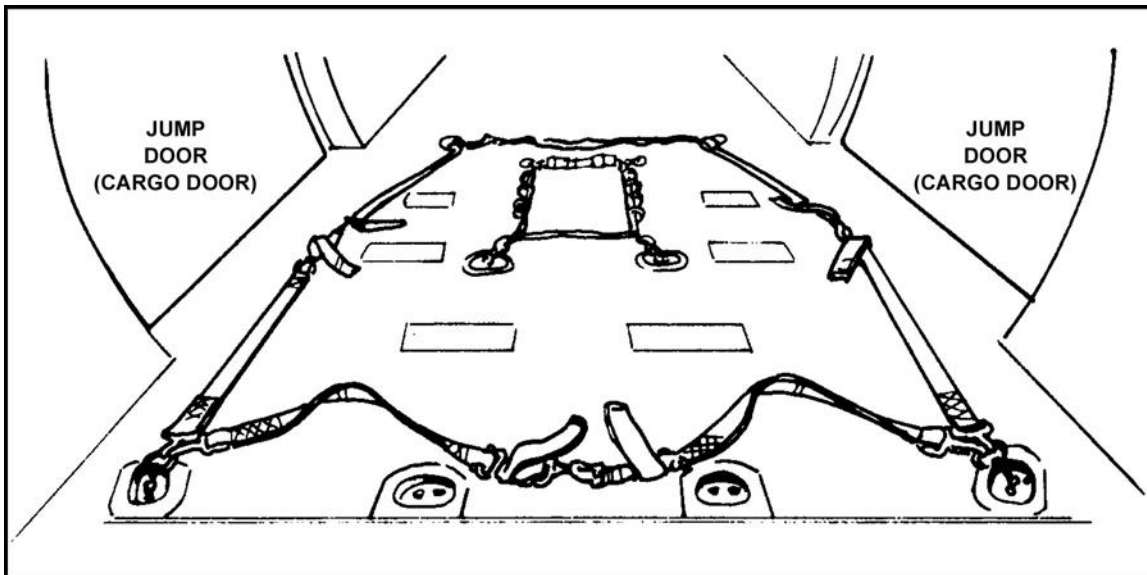

Figure 17-7. UH-60A compartment prepared for jumping.
- a. **Preparation.** To prepare the UH-60A for jumping, adhere to the following procedure (Figure 17-7):